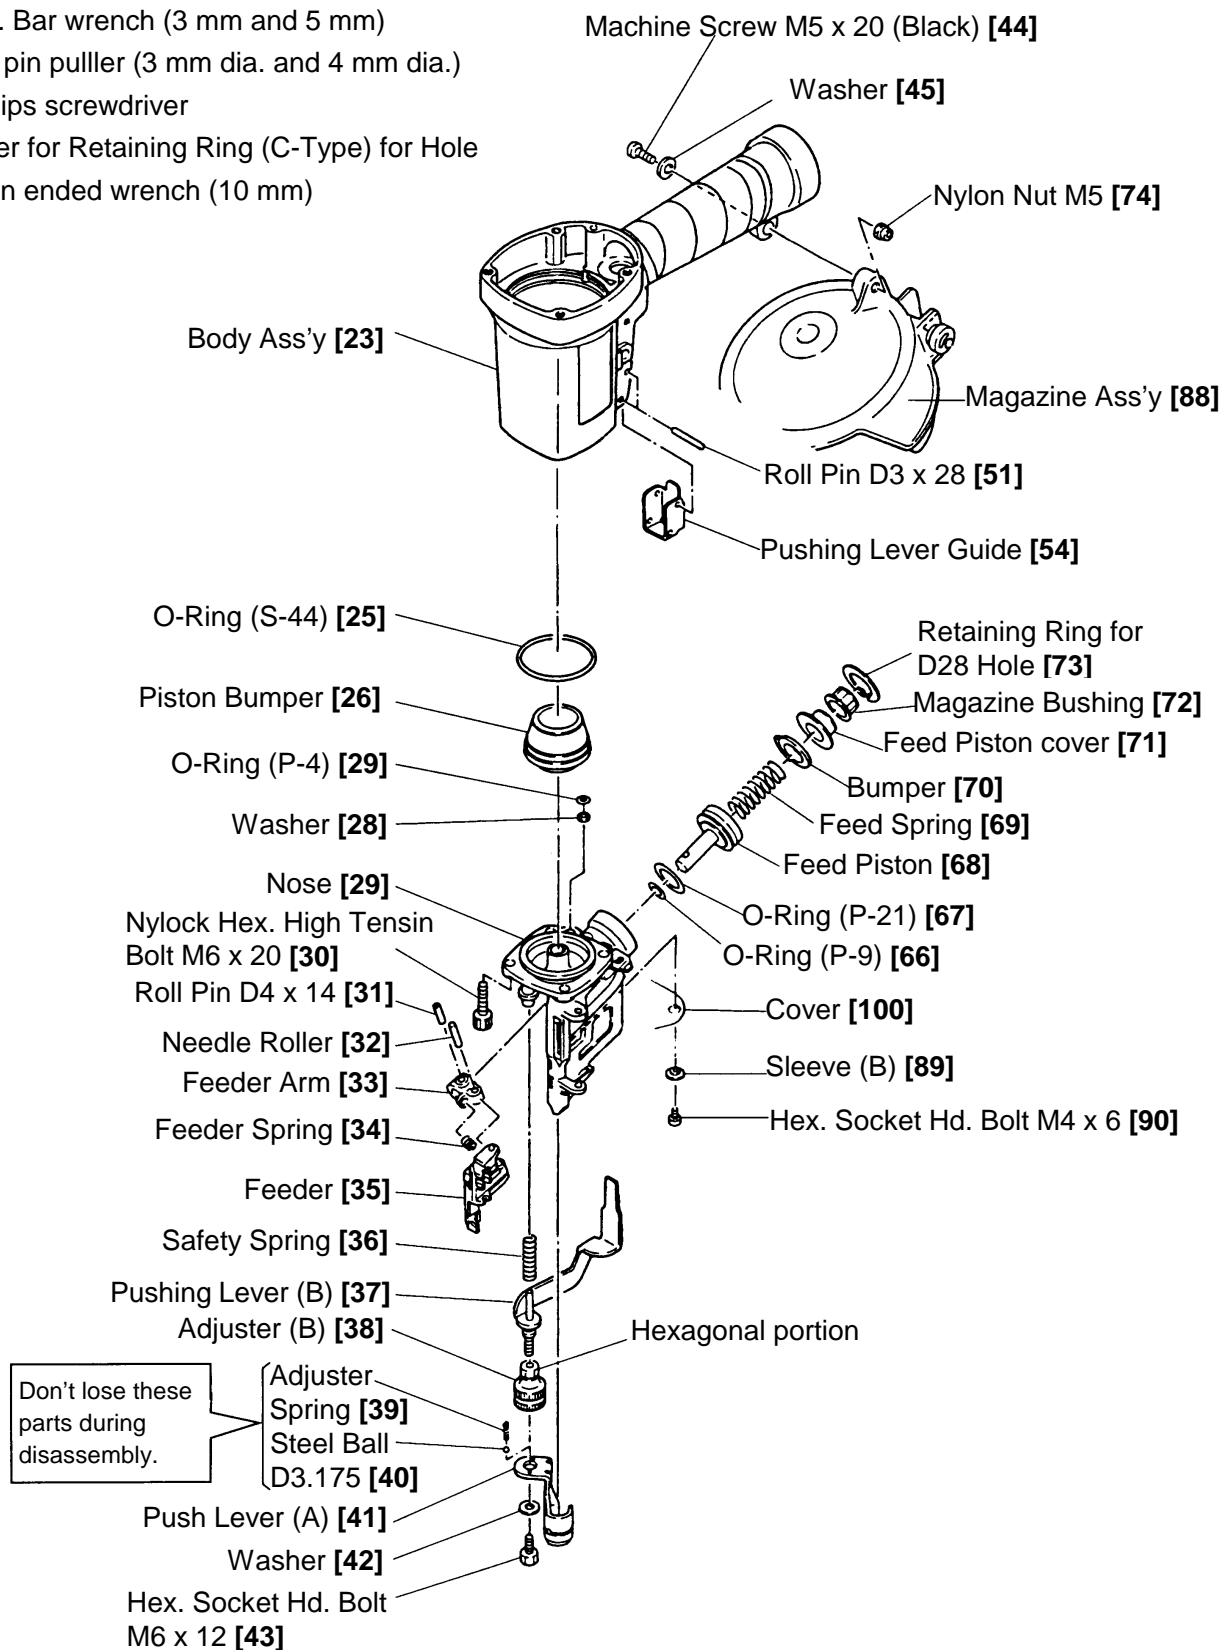

Fig. 20 Disassembly and reassembly of the driving section
1-4. Disassembly and Reassembly of the Driving Section (See Fig. 20)
(1) Disassembly and Reassembly of the Nose [29], Pushing Levers (A) [41], and (B) [37], etc. (See Fig. 20)
- After reassembly, check that the components of the Pushing Lever and Adjuster (B) [38] operate smoothly.
(2) Disassembly and reassembly of the Piston Bumper [26], the Feeder [35], the Feed Piston [68], etc. (See Fig. 20)